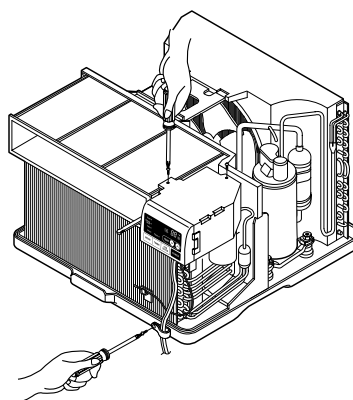

Figure 14
11. Raise the control box upward completely. (See Figure 14)